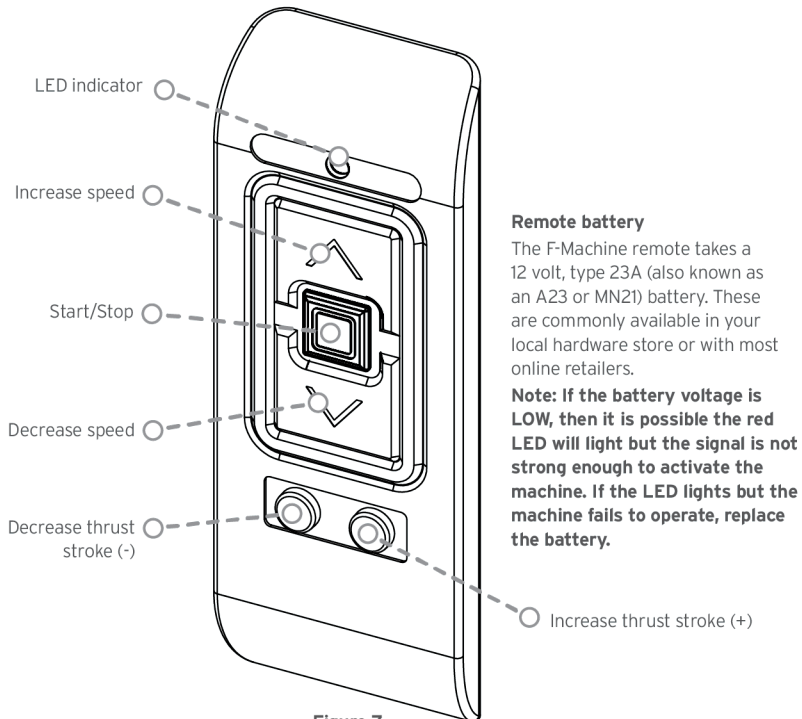

Figure 7
**Note:** The thruster rod retention screw in the slider block may not be visible through the slot in the window. If it is not, you can push on the thruster rod until it comes into view, or failing that, you can drive the mechanism back to a lower thrust setting using the minus ('-') button on the remote control or App (figures 7 & 8).
The remote control has 5 buttons and an LED indicator (see figure 7).